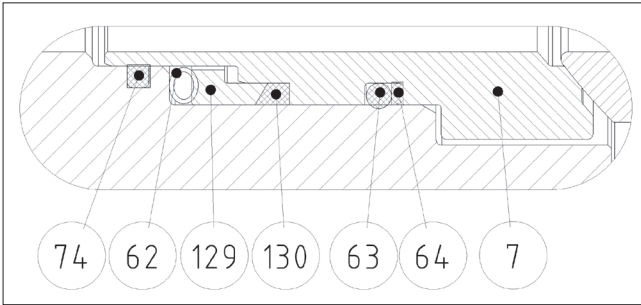

Fig. 11
- Place the back seal (O-ring) (63) into the groove in the seat. See Figure 11.
- Place the back-up rings (64) made of PTFE strips at the side of the O-ring. To ensure that the seam becomes flexible, the strip must have slanted ends.
- Place the backseal (130) and ring (129) on the seat.
- Place the spring (62) on the seat (7). See section R seat for installation of part (62).
- Place the solids proof seal (74) into the groove in the body and body cap.